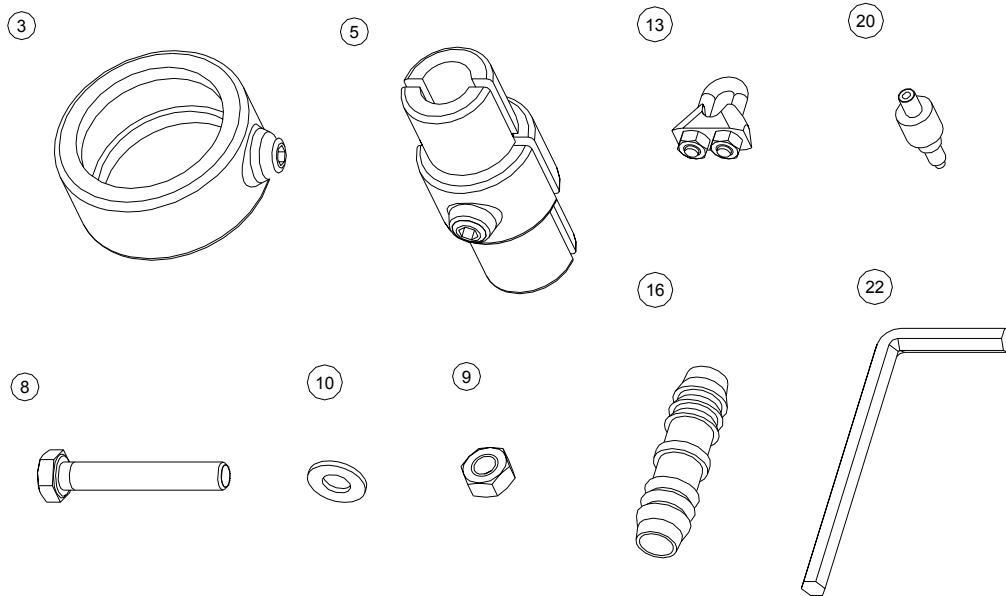
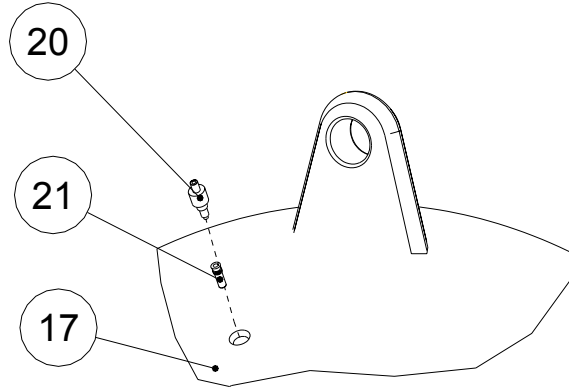
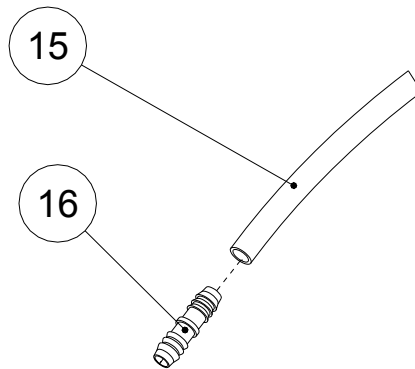

Fig 3: Drilling the base pipe into the ground.
Fig 6: Assembly of the pipe connector.
Fig 7: Assembly of the ring to the bend pipe
4. Mount the funnel (14) to the ring (7) using fixation ring (11). The lower edge of the non transparent collar must be even with the lower end of the ring.
5. Put one side of the pipe connector (16) into the plastic pipe (15), see fig. 6.
6. Put the pipe with the pipe connector first into the opening in the lower end of the funnel (14) using some soap to grease the pipe will simplify this process. Connect the other end of the pipe to the pipe connector.
7. Drill the base pipe (1) into the ground using wrench (2). See fig 3. To ensure that the pipe is vertically mounted one can use a plumb-line. Drill a hole turning and pushing the drill into the ground. If drilling becomes more difficult take the drill out and remove sand from the drill. Proceed until the pipe is firmly mounted preferably 60-70 cm deep.
8. Put the connection pipe (4) into the base pipe (1) Secure the pipe with the ring (3) Fixate the screw using the supplied socket head wrench (22)
9. Connect the bend pipe (6) to the connection pipe (4) using clamp (5) Tighten the screw firmly until the pipes are firmly connected.
10. Connect the ring (7), with connected ball, funnel etc. into the slot of the bend pipe (6) using M8 bolt (8), nut (10) and spacer (9). See fig 7.